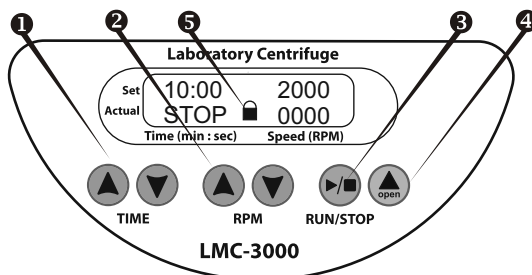

Fig.3 Control panel
- 4.4. Carefully close the lid (listen for the clicking sound of the lock) readings STOP and  (fig.3/5) in the lower line of the display indicate that the lid is closed.
- 4.5. With the “▲” and “▼” **TIME** buttons (fig. 3/ ) set the required time interval (0-90 min, increment 1 min).
- 4.6. With the “▲” and “▼” **RPM** buttons (fig. 3/ ) set the required speed (100-3000 RPM, increment 100 RPM). Note that the speed can also be adjusted during operation.
- 4.7. Press **RUN/STOP** button (fig. 3/⑤) to start centrifugation. Blinking indication RUN and current speed is displayed in the lower line. The timer in the upper line starts countdown after the set speed is achieved (stable indication RUN).
- 4.8. Centrifugation is stopped automatically after the set time elapses while display shows blinking indication STOP. A sound signal is emitted after full stop of the rotor (press **RUN/STOP** button (fig.3/⑤) to stop the signal).
- 4.10. Press the button **Open** (fig.3/④) and open the lid lifting it upwards with a hand (it is possible to open the lid only when the rotor is stopped). Display shows OPEN.